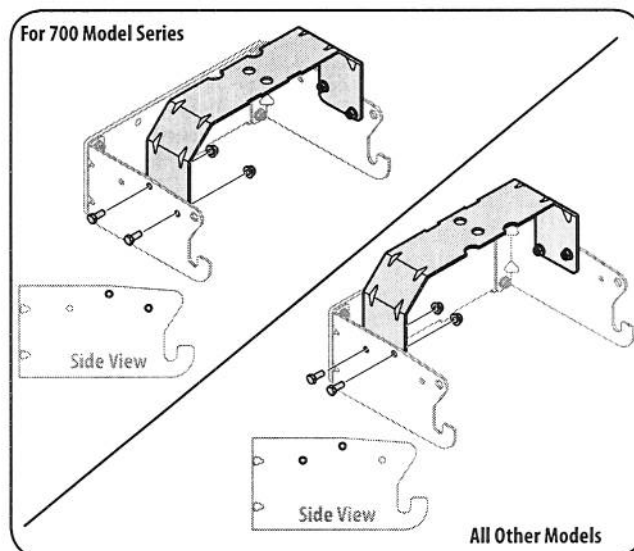

Figure 4-4
2. Flip over assembly and mount the hitch support bracket to the mounting assembly using four 710-3008 hex bolts and 712-04063 flange lock nuts from hardware pack 689-00087. See Fig. 4-4 for proper orientation of the bracket.